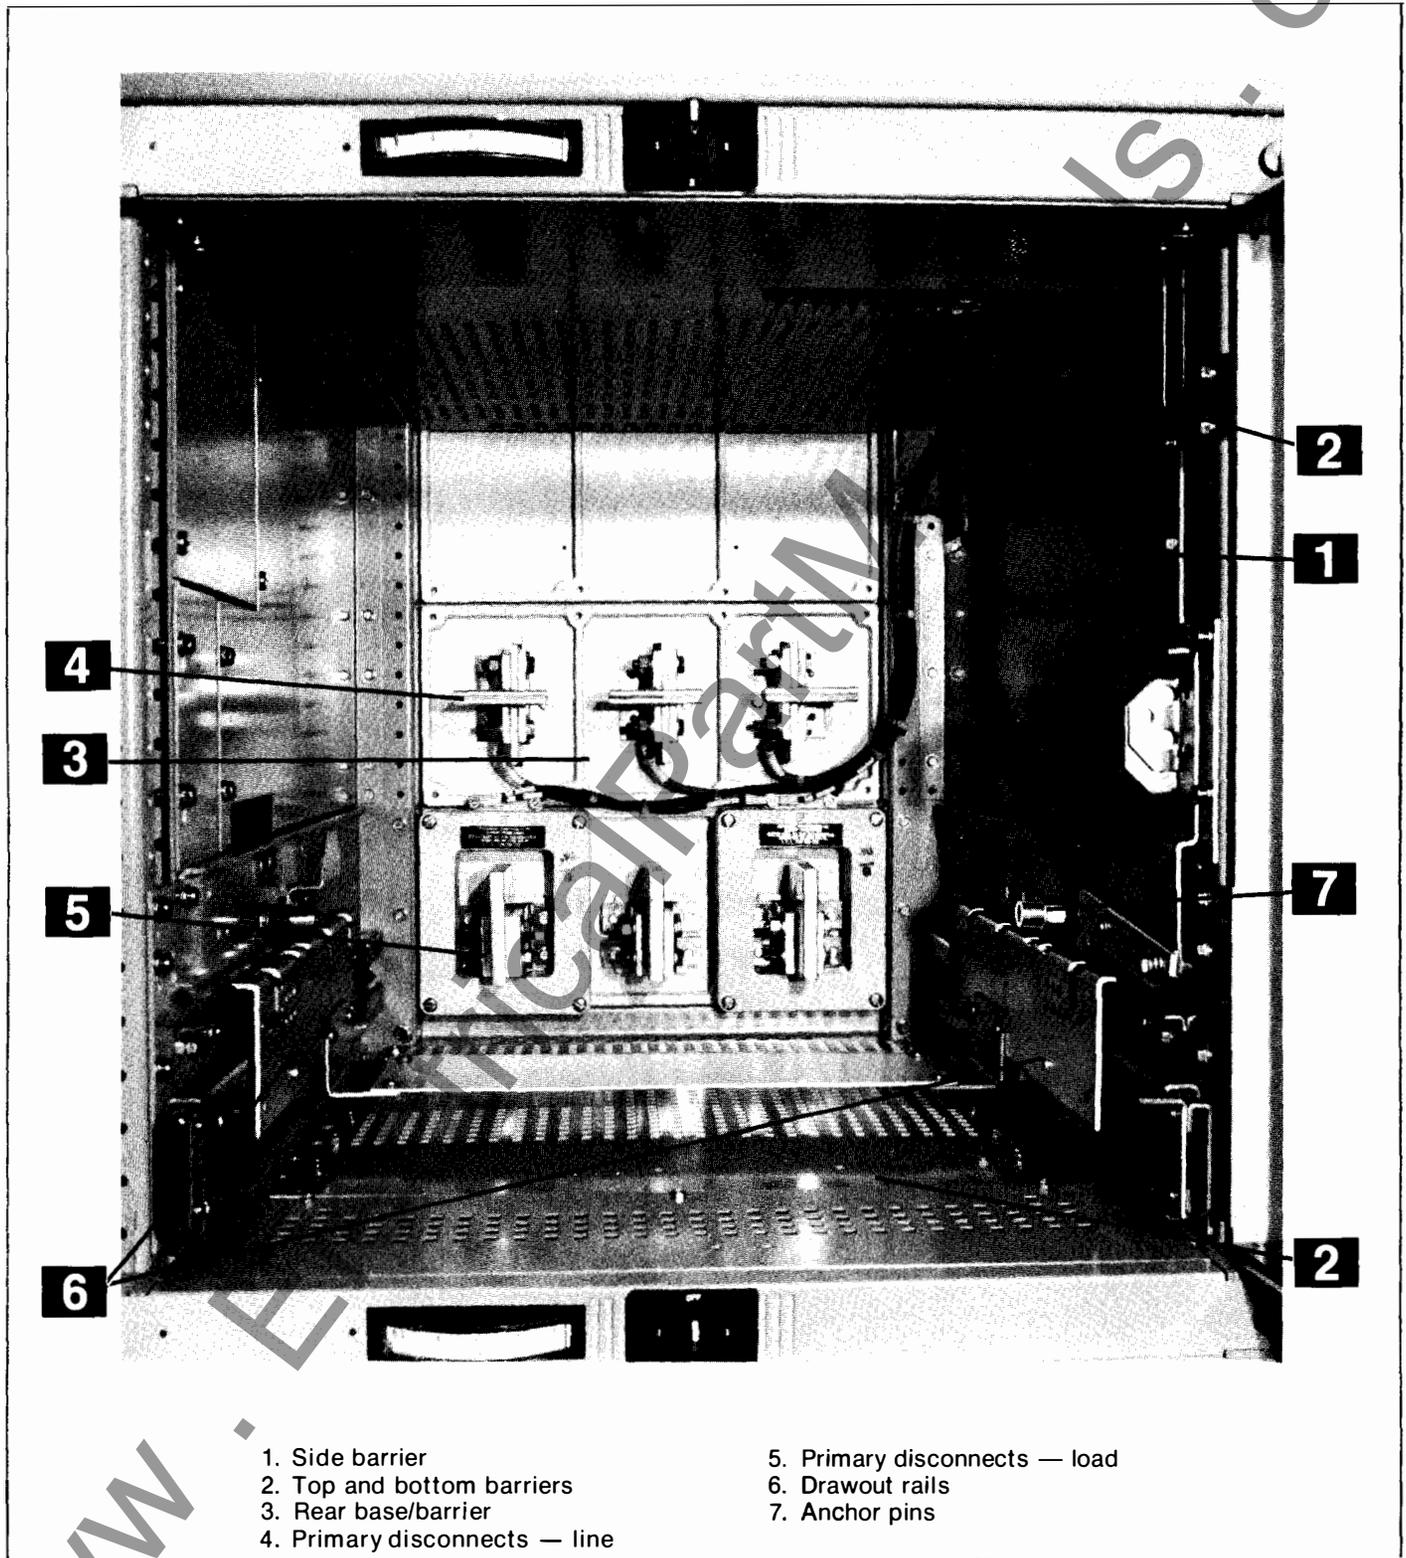
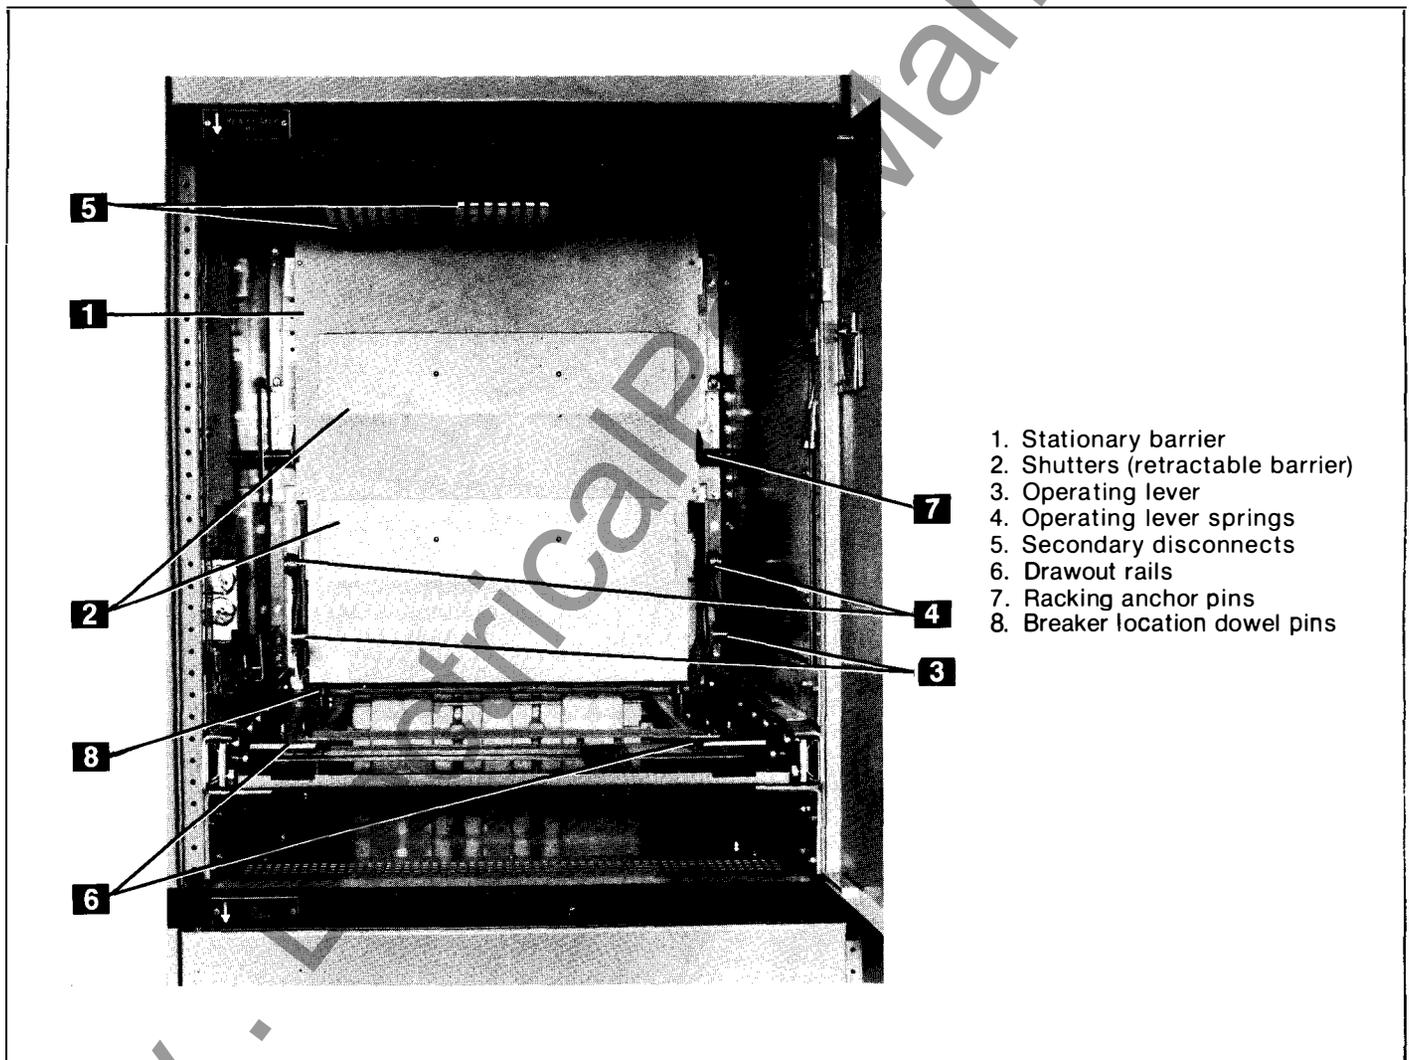

Fig. 3-7. Circuit breaker compartment (22-inch) showing rollout carriage for AKR-30/50/T50 breakers
Fig. 3-8. AKD-8 primary disconnect shutter assembly (30-inch wide rollout carriage and compartment for AKR-75/100 breakers)
Breaker compartment doors do not have any ventilation slots, thus protecting operators from hot ionized gases which may be vented by the breaker during circuit interruption. Additionally, the breaker compartment, Fig. 3-7, is enclosed by grounded steel barriers on the top, sides, bottom, and front. In the back a flame-retardant, arc track resistant glass-filled polyester base minimizes the possibility of fault communication between compartments or to the bus.
Primary disconnect shutters, Figs. 3-8 and 3-9, are available as options to provide protection against contact with the energized stationary primary disconnects when the breaker is removed from its compartment. Shutters are supplied as standard components in the main and tie breaker compartments of double-ended substations or dual-fed switchgear; additionally, they are standard components in compartments containing reverse-fed devices (i.e. those compartments where the line terminals are the bottom primary stabs). The shutters are constructed from glass-reinforced polyester insulating material.
Referring to Fig. 3-8, the combination of the stationary barrier (1) and the shutters (movable barriers) prevent frontal access to the primary disconnect line and load power stabs.
The shutters are not retracted as the circuit breaker is racked from the Disconnect Position to the Test Position. This arrangement allows the breaker control circuits to be completed through the secondary disconnects (5), Fig. 3-8, for testing purposes while the shutters remain interposed between the primary power stabs in the equipment and the primary disconnects on the circuit breaker.
Circuit breakers mounted in 22-inch wide compartments (AKR-30, AKR-50, AKRT-50, etc.) are supported on drawout rails (6), Fig. 3-7. The larger AKR-75 and AKR-100 circuit breakers and fuse rollout carriages are installed in 30-inch wide compartments and are supported on drawout rails (6), Fig. 3-8.
Note that extra items shown in Figs. 3-8, 3-9, and 3-10 (such as secondary disconnects, current transformers, position switches and ground sensor secondary disconnects) may appear in any compartment or not be included at all, depending on the equipment specified. Primary disconnects are equipped with short-circuit braces when breakers are fused or when extra-deep breaker compartments are used.
The racking arm slots engage fixed racking anchor pins (7), Fig. 3-8, mounted in the breaker compartment. As the racking arms are rotated by operation of the breaker racking crank, the breaker is pulled into the compartment, and locked in its final connected position.